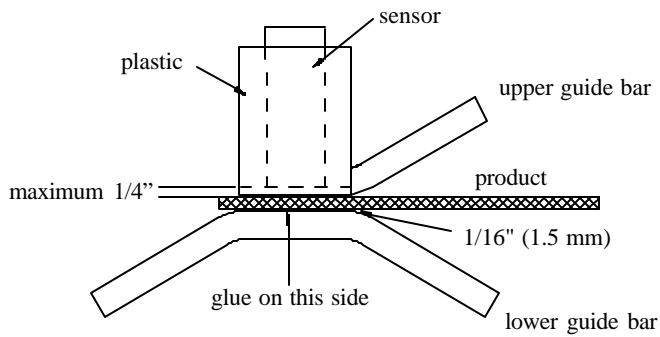

Figure 14. Typical Installation (Capacitive Sensor Only)
1. Adjust the guide bars of the bracket so that there is approximately 1/16" (1.5 mm) clearance between the product and the upper and lower guide bars (Figures 14 and 15).